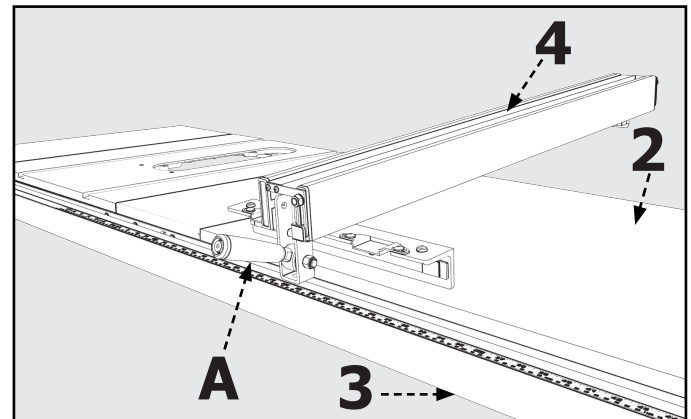

FIGURE 11
1. Place the Fence (4) on the Guide Tube (3) and lift the Clamping Lever (A).
2. Guide the Fence over the Rear Guide Rail (2), as shown in **Figure 11**, and gently push the Fence on the Guide Tube (3).